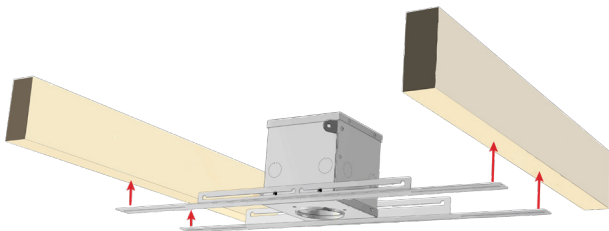

Figure 5.
3. Once the installation points are determined, attach the rails to the ceiling joists (hardware for this attachment is not provided.) See Figure 5.